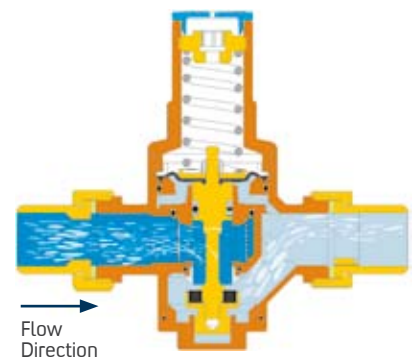

Fig. 2
The figures on the right show the structure of the Teuton pressure reducing valve. A flexible membrane "A" originates the movement of the obturator B as a consequence of the action of two opposing forces: from below, the water pressure in the pipeline downstream from the reducing valve, which tends to close the valve; and from above, the force of the spring appropriately loaded according to the desired working pressure to be maintained, which tends to open the valve. The valve opens, as illustrated in Figure 2, when, as a consequence of water supply to the taps, the pressure under the membrane drops and the force of the spring "C" prevails; thus the opening of the valve is proportional to the flow which passes through the taps in that moment. As soon as the taps are closed and the water in the downstream tube reaches again a pressure capable of overcoming the force from the spring, the obturator goes up again, closing the valve. The pressure is set by screwing the regulator D that compresses the spring to larger or smaller extent.
- Fig. 2 Completely unscrew the upper regulation screw until it comes out of the bonnet. Remove the spring.